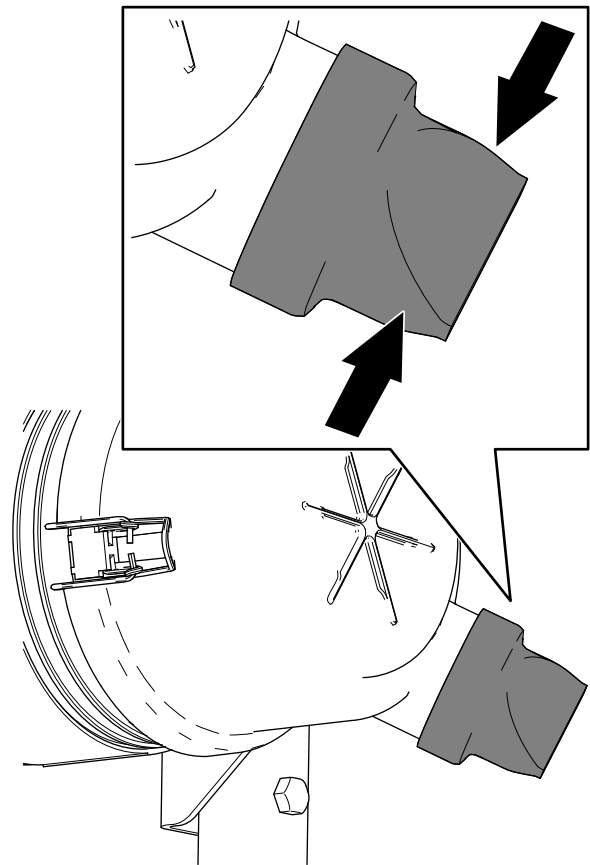

Figure 113
5. Squeeze the dust-ejector valve (Figure 113).